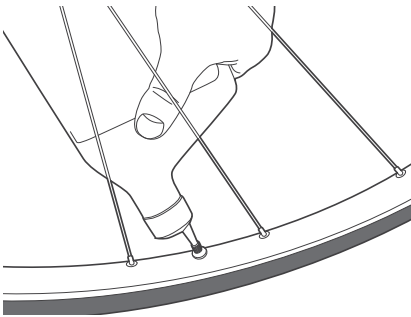

Figure 25. Pour sealant through the valve
4. Pour the sealant through the valve (Figure 25).